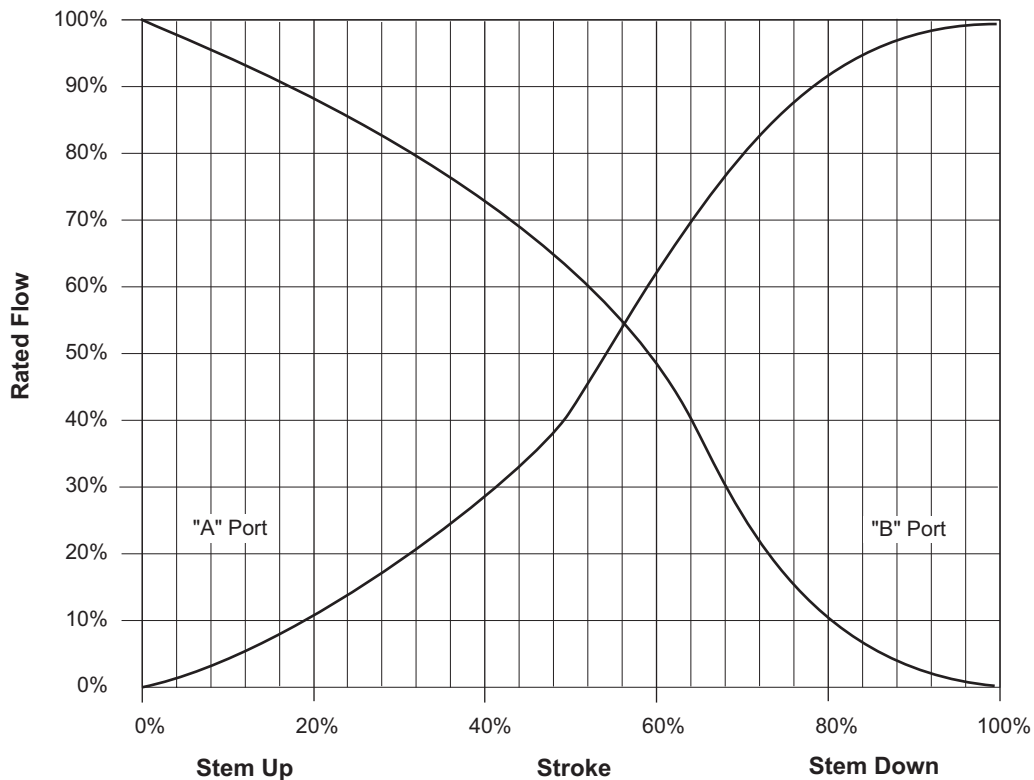

Figure-2 Typical Flow Characteristics.
**3-Way Valves:** 3-way mixing valves are designed so that the flow from either of the inlet ports to the outlet is approximately linear, which means the total flow from the outlet is almost constant over the stroke of the valve stem. See Figure-2 for typical flow characteristics of the VB-731x and VB-931x series valve bodies.